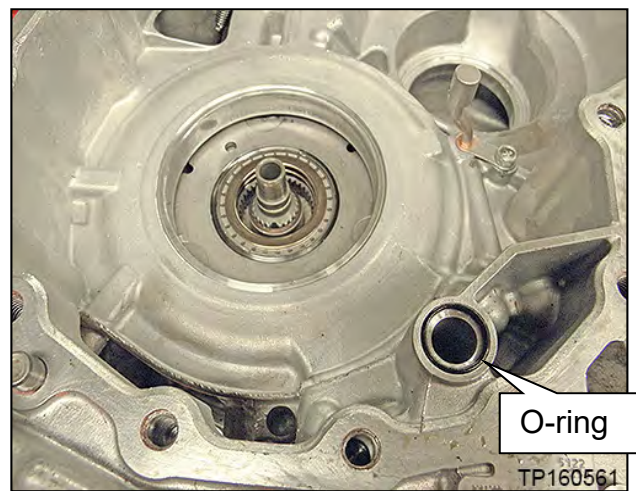

Figure 83
66. Replace the O-ring on the CVT case side with a new one from the PARTS KITS REFERENCE TABLE; discard the original O-ring (Figure 83).